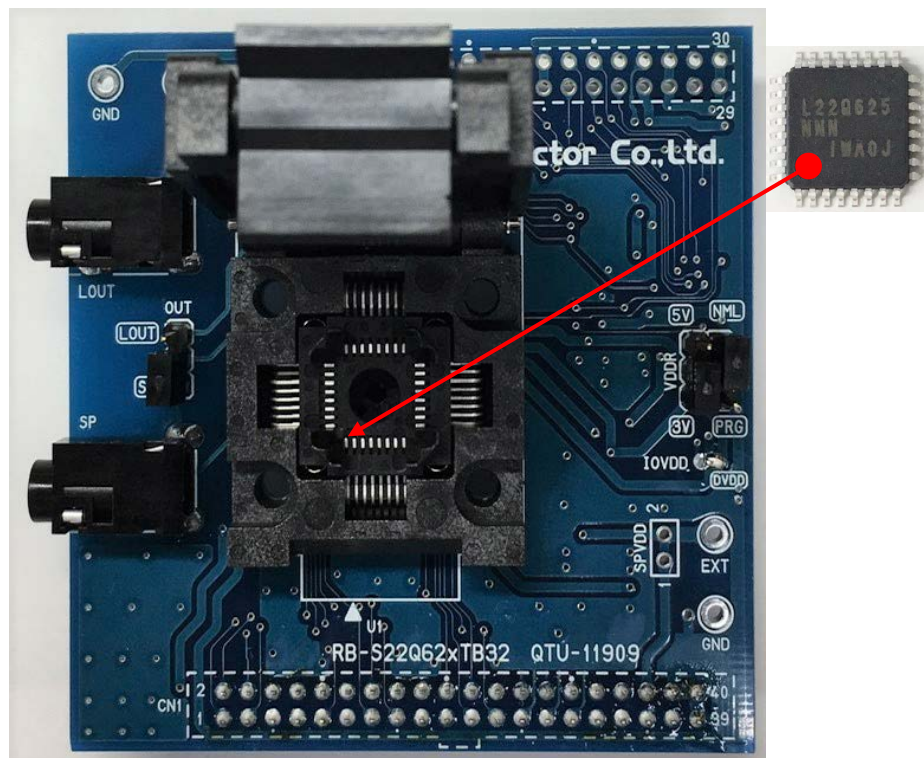

Figure 1 Outline Diagram
- Turn off the power when loading devices into the RB-S22Q62xTB32. Be sure to orient the device correctly. Pin 1 direction is toward the lower left side when the lid is opened. The Figure 1 shows the setting directions of devices.